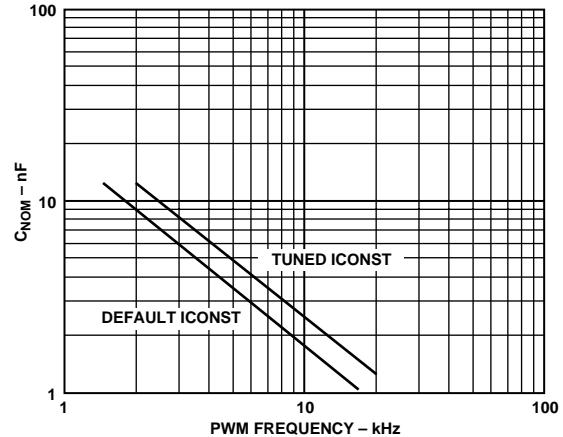

Figure 14. Timing Capacitor Selection
The charging capacitor value is selected based on the sample (PWM) frequency desired. A selected capacitor value that is too small will reduce the available resolution of the ADC by having the ramp voltage rise rapidly and convert too quickly, not utilizing all possible counts available in the PWM cycle. Too large a capacitor may not convert in the available PWM cycle, returning 0xFFFF. To select a charging capacitor use Figure 14, select the sampling frequency desired, then determine if the current source is to be tuned to a nominal 100 μ A or left in the default (0x0 code) trim state, then determine the proper charge capacitor from the appropriate curve.
1. A high quality linear ADC capacitor is selected using Figure 14 for a tuned ICONST.